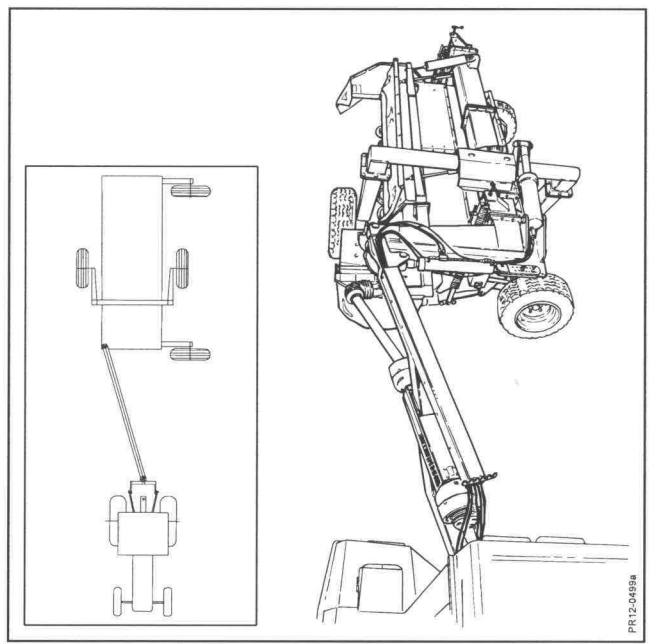

Fig. 3-4
- Fig. 3-4** 2) **MACHINE IS MOUNTED ON THE TRACTOR IN TRANSPORT POSITION.**